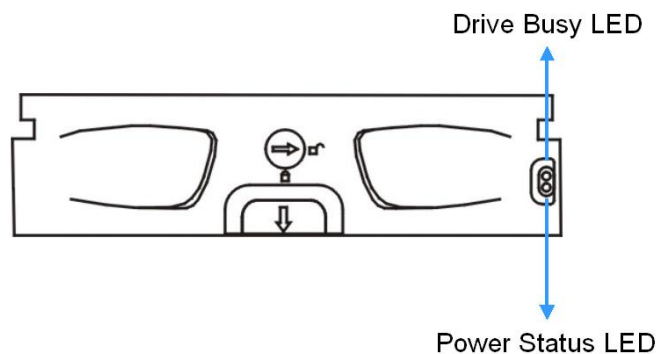

Figure 3-4: Drive Tray LEDs
The drive trays come with two (2) status-indicating LEDs, one that indicates power and the other that indicates hard drive activities. The LEDs are shown in **Figure 3-4** and their definitions in **Table 3-5**.